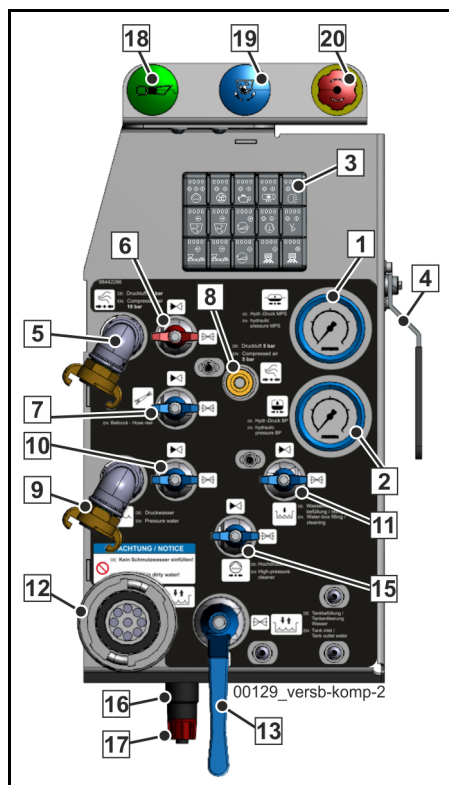

Fig. 179 Supply control
The local control unit (3) is in supply mode (**Fig. 179**).